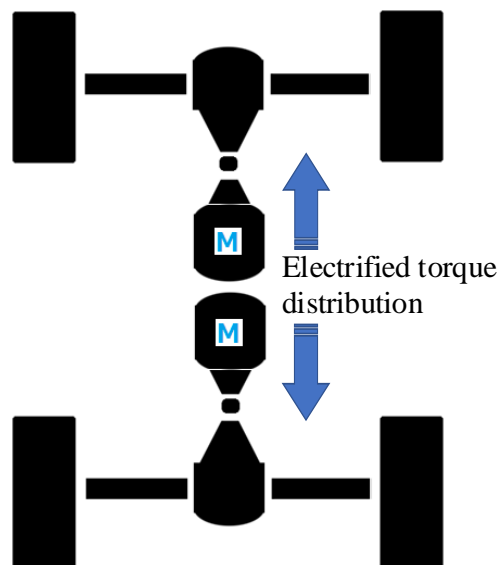

Figure 21. Example electric AWD system diagram.
Typically, electric AWD systems have two electric motors — one is on the front axle and the other is on the rear axle — and therefore a mechanical connection between the two axles does not exist as shown in Figure 21. Like the hybrid-electric AWD system described in the previous sub-section, the checkbox **Motors on driven axles** on the **Powertrain: Hybrid/Electric System** screen (② in Figure 4) should be checked. The front and rear electric motors need to be specified on the **Powertrain: Front Differential** screen and **Powertrain: Rear Differential** screen, respectively.